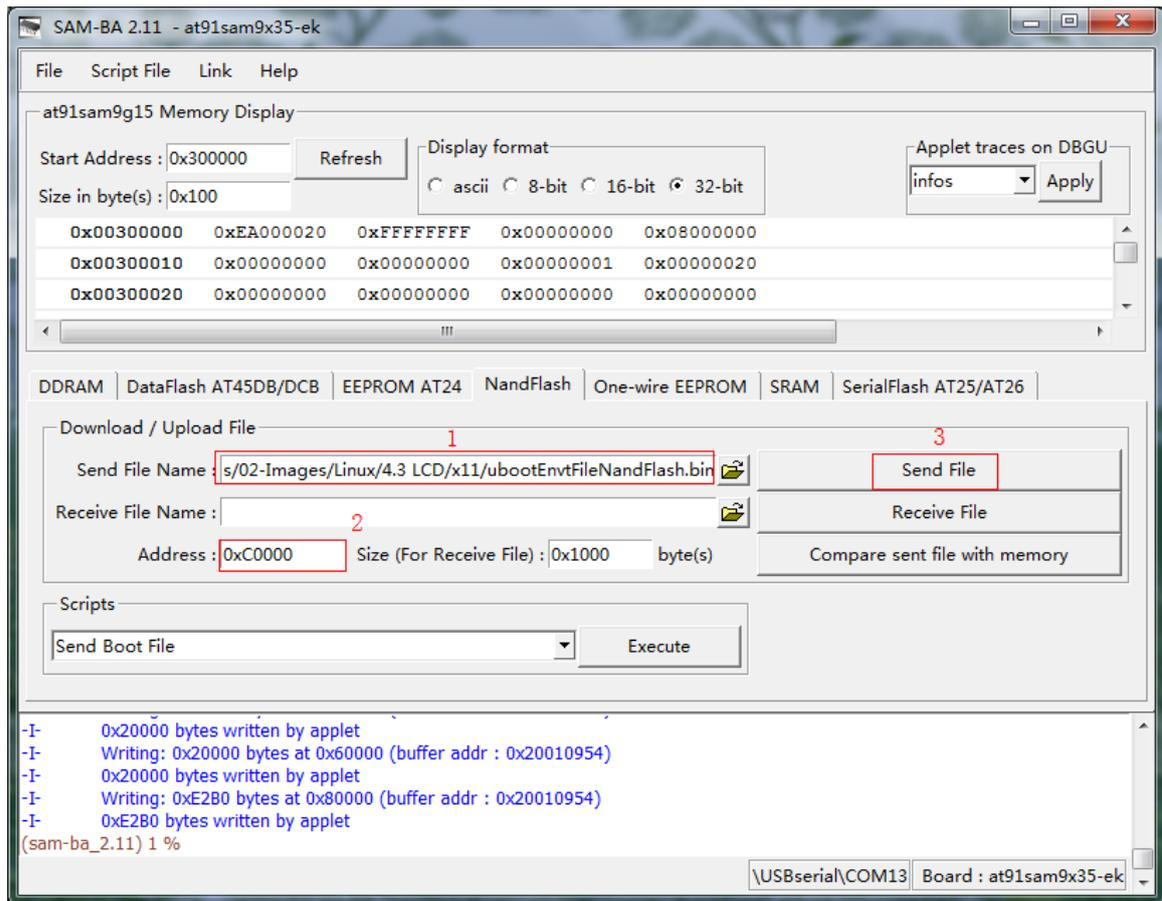

Figure 4-12
(5) Download ubootEnvtFileNandFlash.bin to 0xC0000. Refer to figure 4-12: